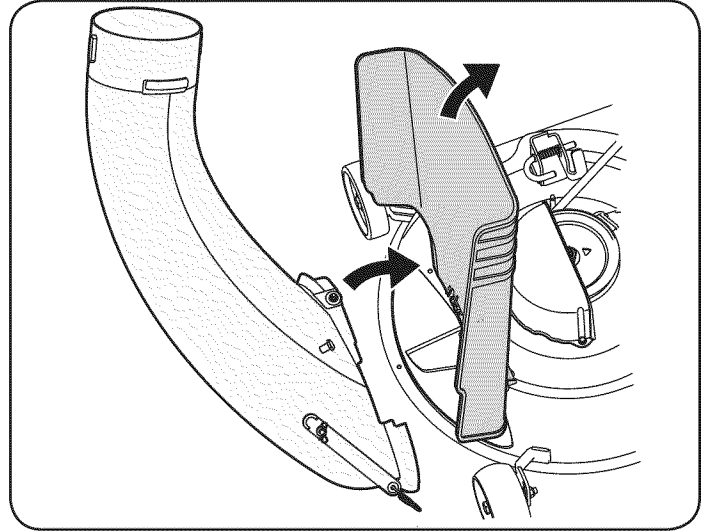
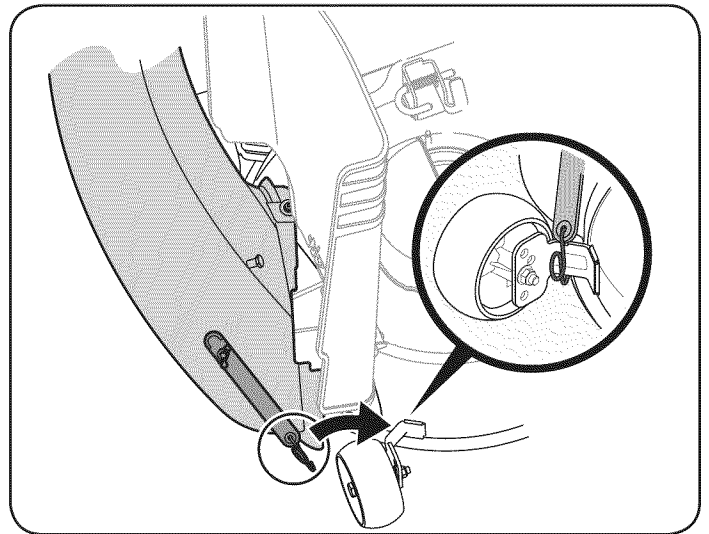

Figure 21
Figure 22
14. With the tractor's discharge chute raised up and held open, install the chute elbow over the chute opening by placing the deck mounting pin in the hole provided, as seen in Fig. 21, then secure the elbow to the deck by hooking the retainer strap torsion spring hook over the deck wheel mounting bracket as seen in Fig. 22.